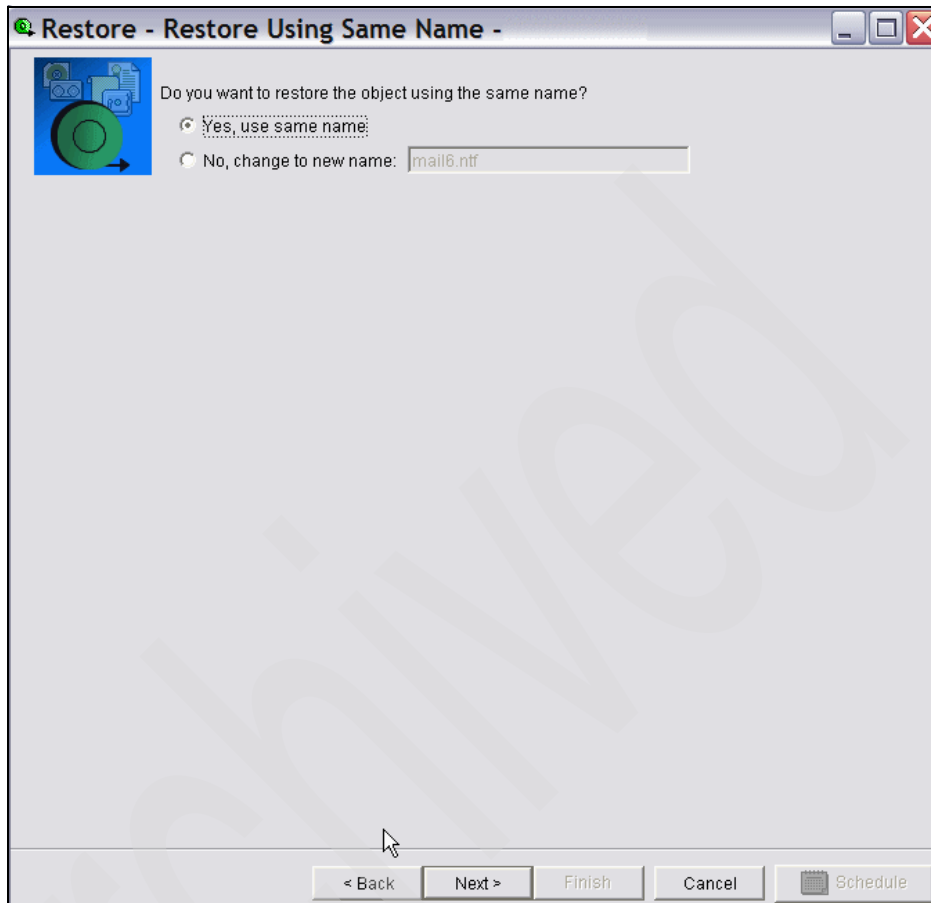

Figure 5-88 Restore Domino data with BRMS, Restore - same name
8. In the window shown in Figure 5-88 on page 268, select **Yes, use same name**, and click **Next**.